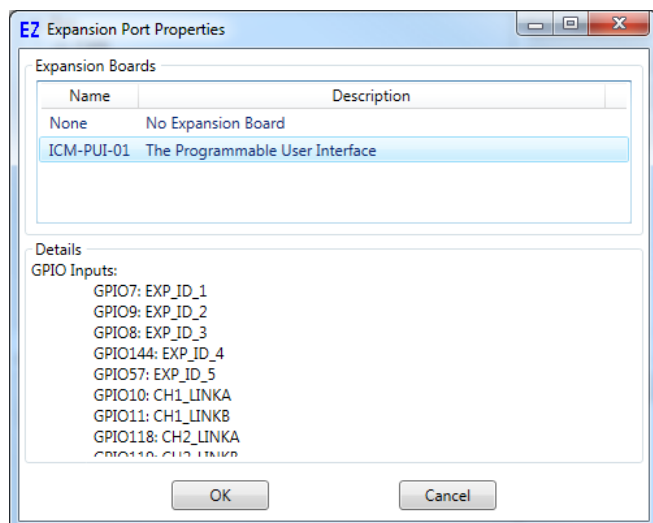

Figure 2-4 - Expansion Port Properties
5. Select the ICM-PUI-01 from the Expansion Boards list. Refer to figure 2-4. The Details pane will update with the I/O list on the selected expander.